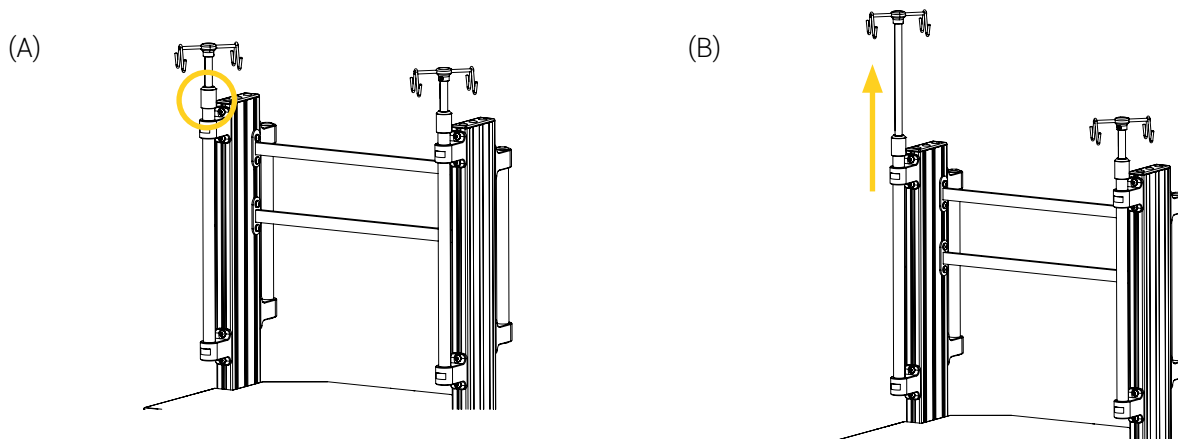

Figure 23 : Height adjustment of the IV pole
1. Loosen the collar of the IV pole by turning it a quarter of a turn counterclockwise, then raise or lower the pole according to your needs (Figure 23).